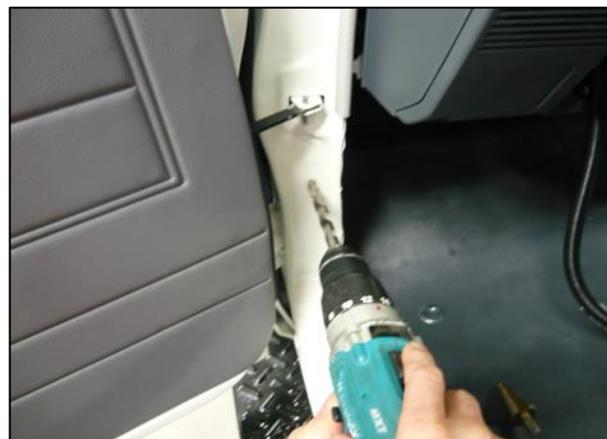

Fig. 9
- c. Drill $\varnothing 12.5\text{mm}$ holes in the door pillars to mount the proximity switches Fig. 9